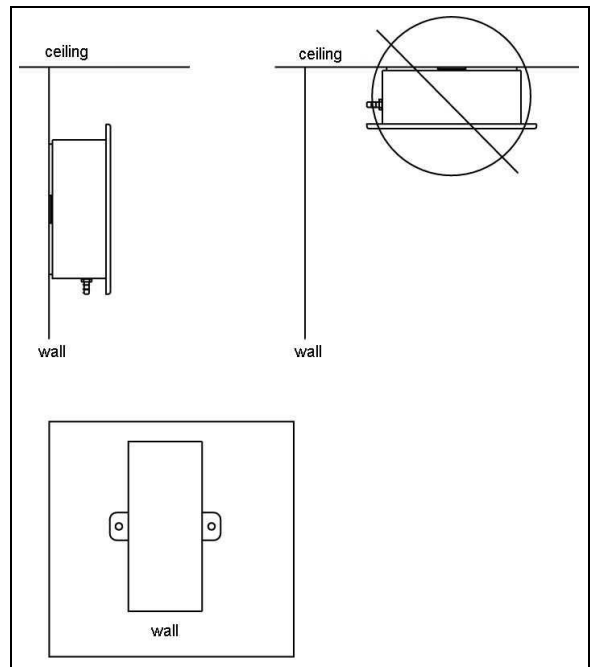

Figure 10: Pressure Transducer Mounting
7. Mount the pressure transducer within 10 feet of the flow station. The transducer must be mounted on a wall in the correct position per Figure 10 (screws not provided).